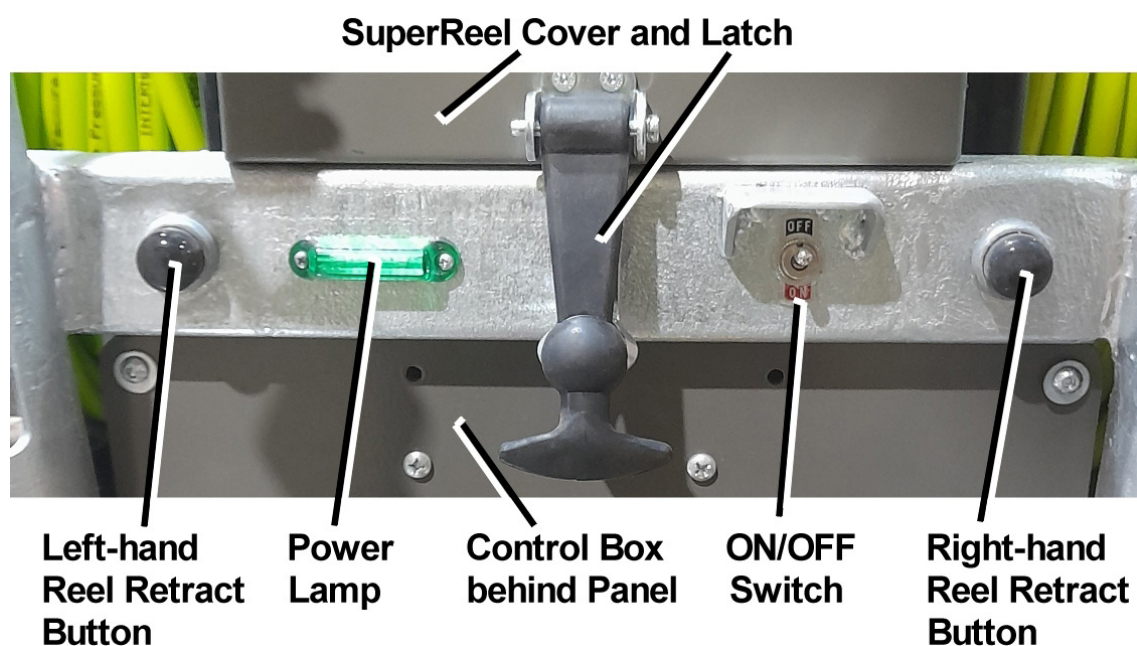

Figure 6 – Manual Control Panel
3. At the rear of the SuperReel M-Series sprayer, switch the power toggle switch to ON, refer to Figure 6. The green lamp will light up, indicating the system is powered up. The remote controls will now be operational.
1. At the manual control panel, switch the power toggle switch to ON, refer to Figure 6. The green lamp will light up, indicating the system is powered up. The remote controls will now be operational.